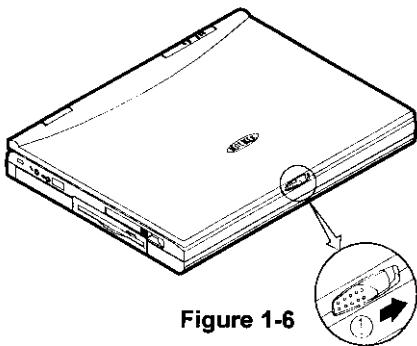

Figure 1-6
1. Move the latch to the right to release the top cover. (Figure 1-6).